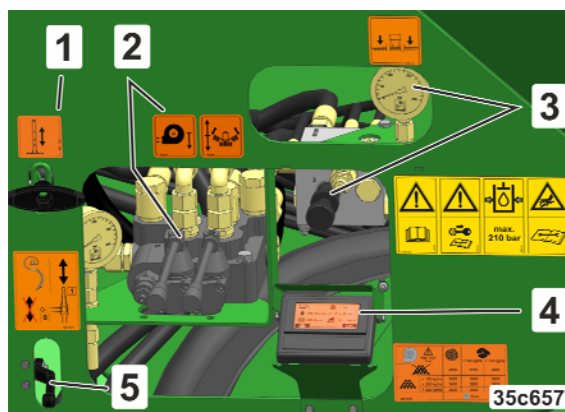

Fig. 38
- Cable pull for the parking support (Fig. 38/1)
- Control elements for the on-board hydraulic system (Fig. 38/2)
- Control elements for the section pressure adjustment (Fig. 38/3)
- In conjunction with ISOBUS, the TwinTerminal (Fig. 38/4)
- Control elements for the wheel mark eradicator folding (Fig. 38/5)